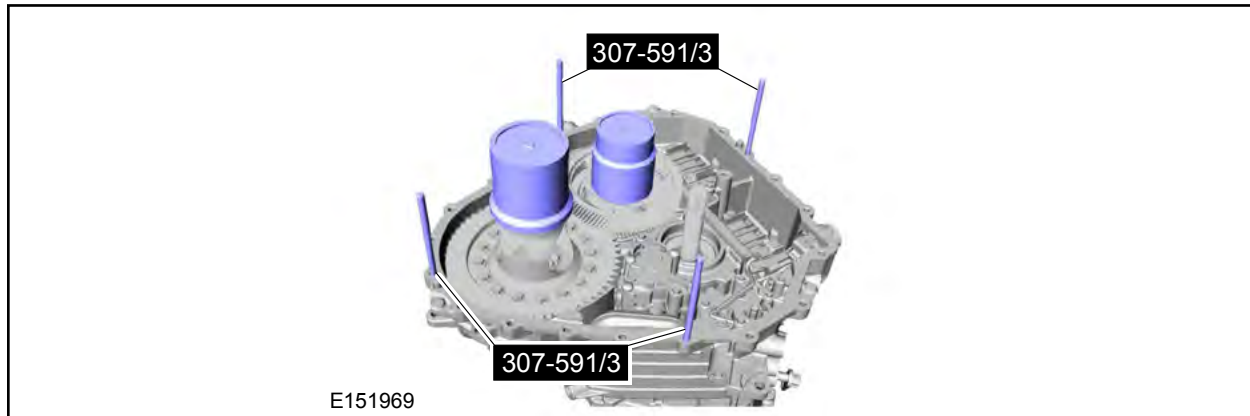

FIGURE 22
18. Install the special tools, placing the spacers on the studs. See Figures 22 and 23.